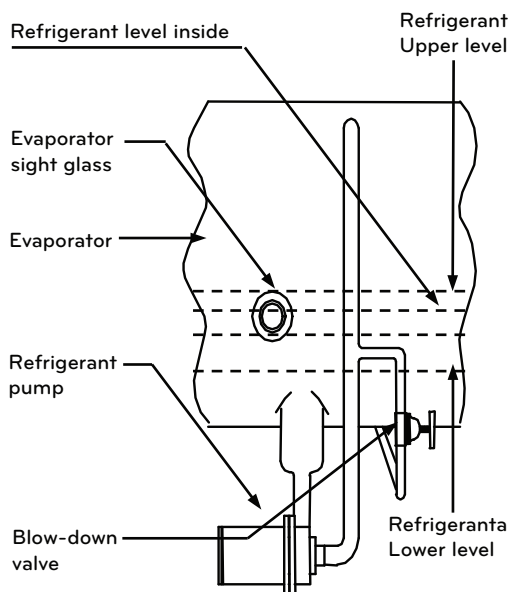

Figure 3-1. Blow-down
- ① Convert 'control valve manual' switch to MANUAL and close the control valve to switch into low-combustion state. For this, it is desirable to lower the temperature of high temp. regenerator down to 100~120°C.
- ② Rotate the blow-down valve counterclockwise as in Figure 3-1 to open it.
- ③ Check the amount of refrigerant through the evaporator sight glass.
- ④ Close the blow-down valve when the amount of refrigerant is reduced down to the bottom level.
- ⑤ Be aware of that refrigerant can move over to the absorber through the blow-down valve, thus the refrigerant pump performs no-load operation. And in case a refrigerant blow-down valve is attached, do not stop the refrigerant pump. If refrigerant pump stops in auto mode, then convert to MANUAL mode before putting it into operation. (When the temperature of chilled water is going down causing MICOM to be in auto mode, refrigerant pump stops automatically, thus be cautious of the low temperature of chilled water.)
- ⑥ When blow-down task is completed, open the control valve in turn to more than 70%, then convert to AUTO mode. (It is same as the task above 7-3-1.)